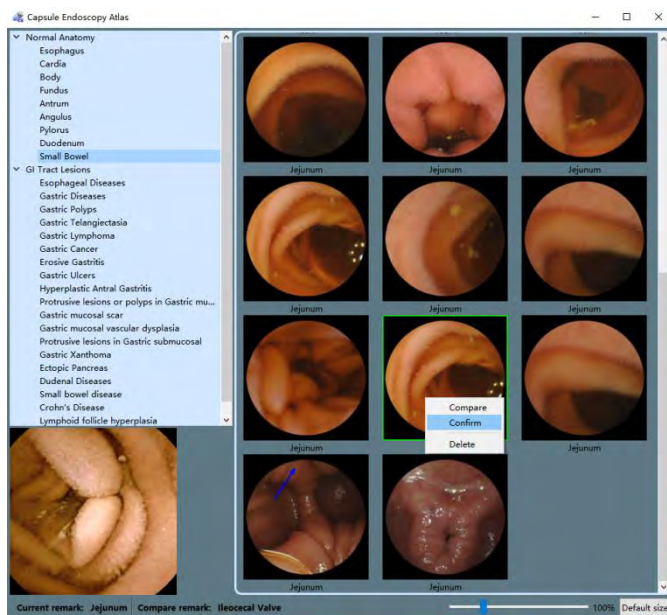

Figure 4-68: Confirm Comparison Result
4. After comparison, if the location or lesion of the exam image is confirmed, click the green checkmark in the upper right corner of the image comparison interface to close it. The software will automatically add the name of the atlas image as a comment to the exam image (Figures 4-68 and 4-69).